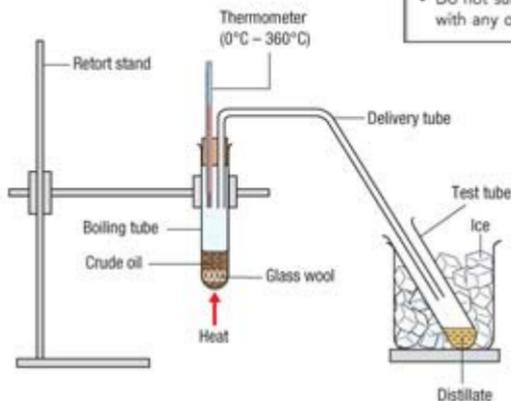

Figure 5.7 Fractional distillation of petroleum
2. Prepare the apparatus set-up (Figure 5.7).